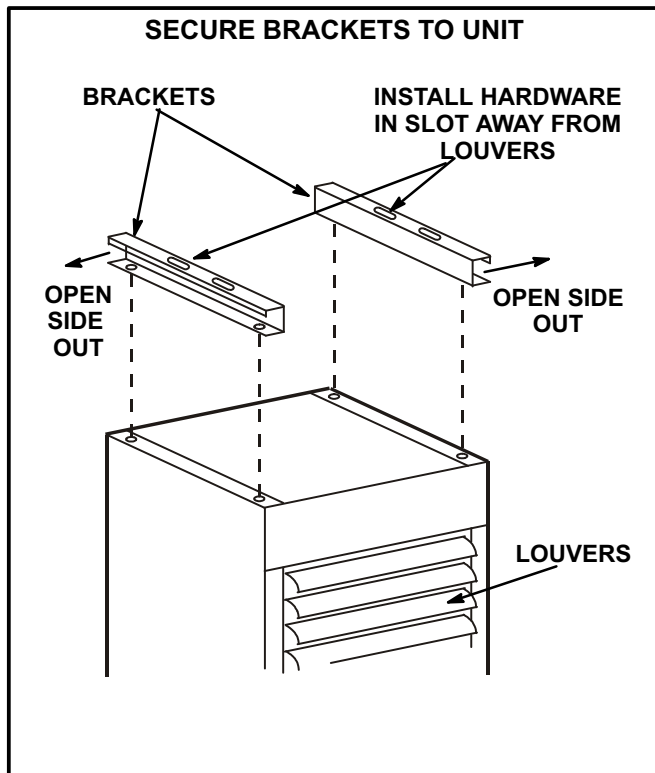
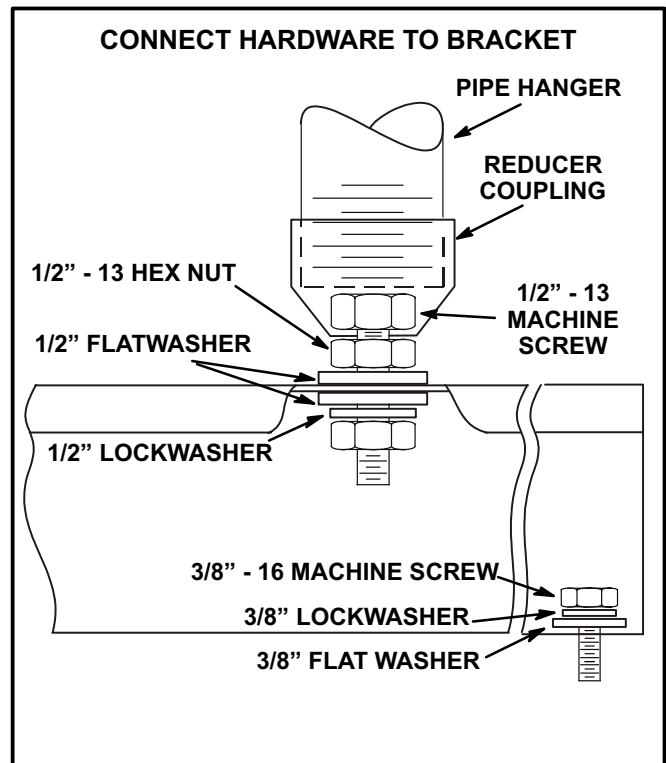

FIGURE 1
FIGURE 2
- 1- Position brackets over threaded holes in top of unit with open sides facing outward. See Figure 1.
- 3- Install reducer couplings and associated hardware in bracket slots further away from the louvers. See figure 1. Assemble as shown in figure 2. DO NOT TIGHTEN HARDWARE.